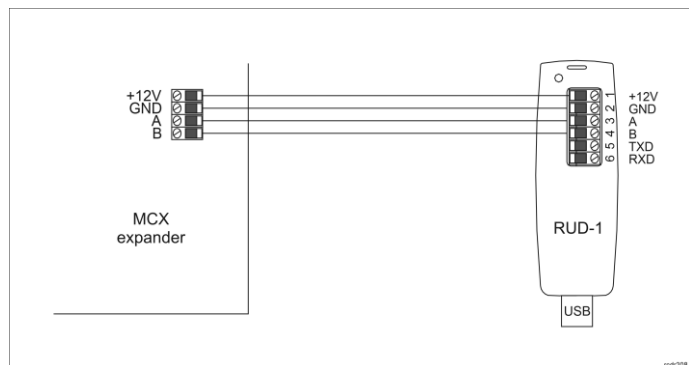

Fig. 1 Connection of MCX expander to RUD-1 interface for configuration
1. Connect the device to RUD-1 interface (fig. 1) and connect the RUD-1 to computer's USB port.